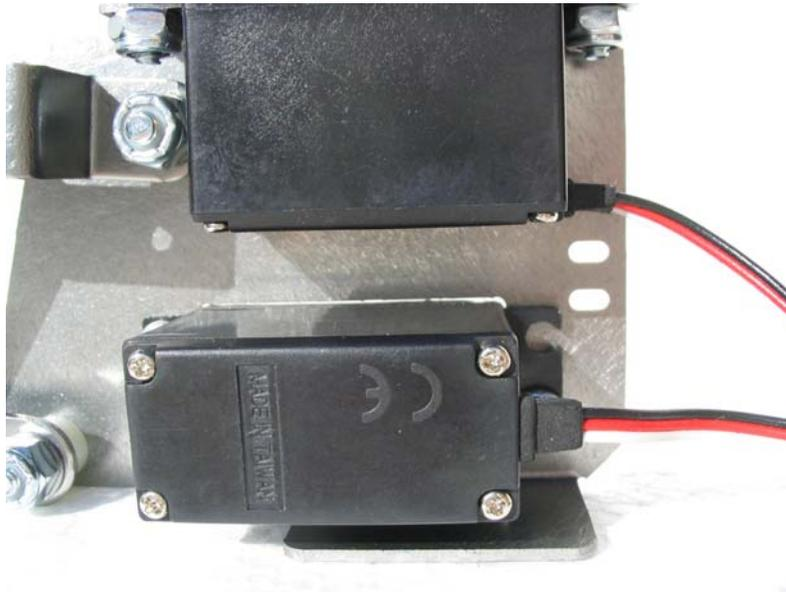

Figure 25: Securing the Servo Wires to the Servo Mount
- Using the supplied black tie wraps, secure the 2 servo wires to the servo mount as shown in Figure 25 and Figure 26. Be sure not to stretch or extend the servo wire when securing them to the servo mount.